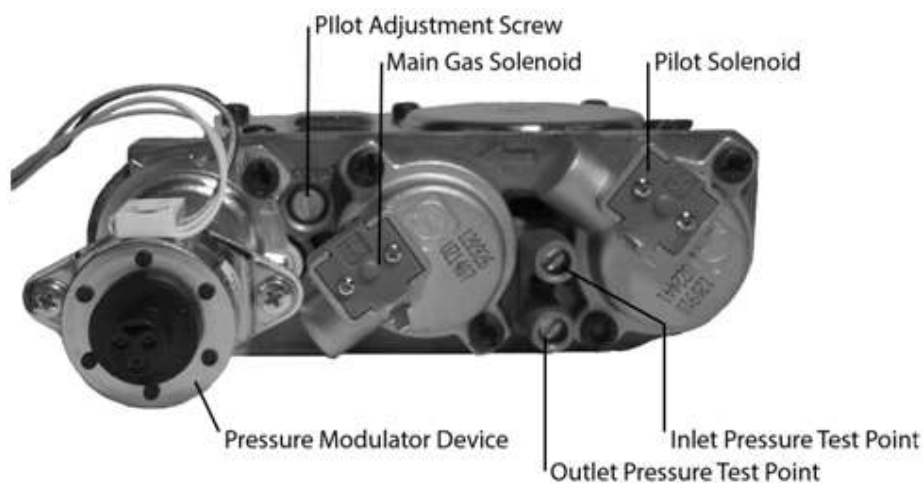

Figure 16: Valve
2. Locate the inlet and outlet test points on the valve which can be seen in Figure 16. After locating test ports loosen the screws within the ports using a flat-tip screwdriver.
The pilot flame level can be adjusted by turning the adjustment screw, using a flat-tip screwdriver, seen on the valve in Figure 16.